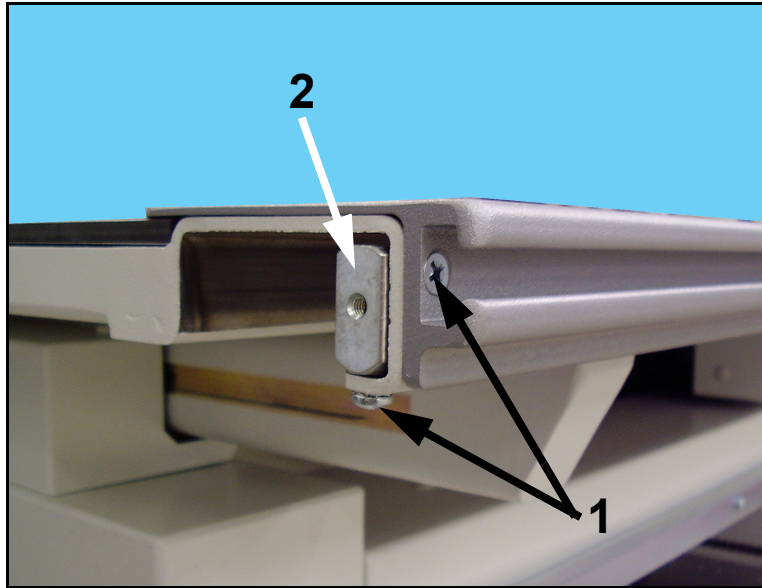

Figure 5-14. Bumper Removal
- 11** Unscrew the bumper screws (1 in Figure 5-14) and remove the bumpers (2) from all four corners of table top.